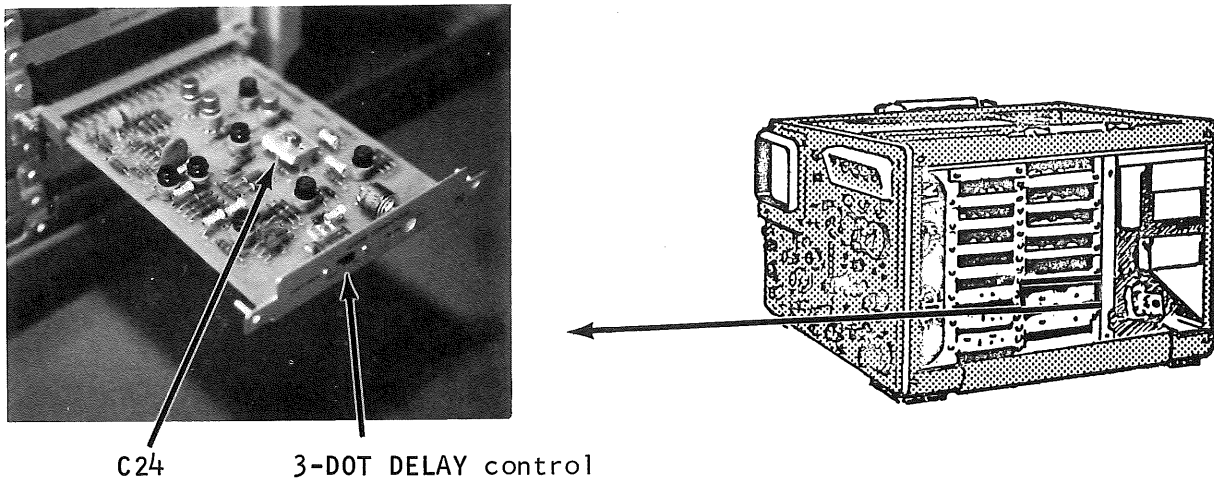
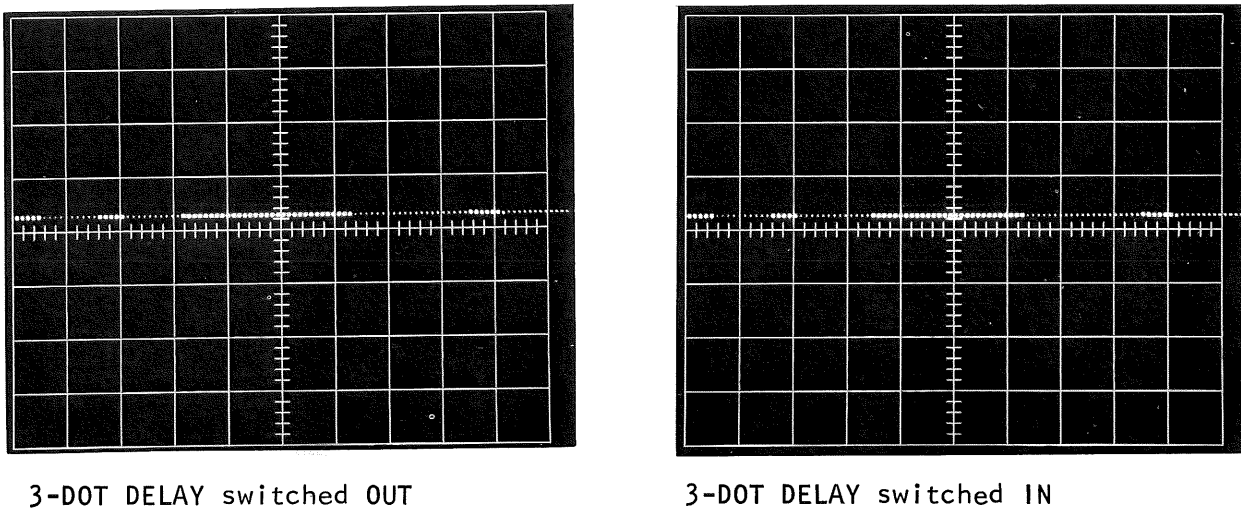

Figure 2-40
Figure 2-41
4. As the 3-DOT DELAY control on the start comparator board is set to OUT, 3 dots must become visible at the start of the intensified zone. When the 3-DOT DELAY control is set to IN, the 3 dots must disappear. Adjust C24, See Figure 2-40, for proper operation of the 3-DOT DELAY control. See Figure 2-41.